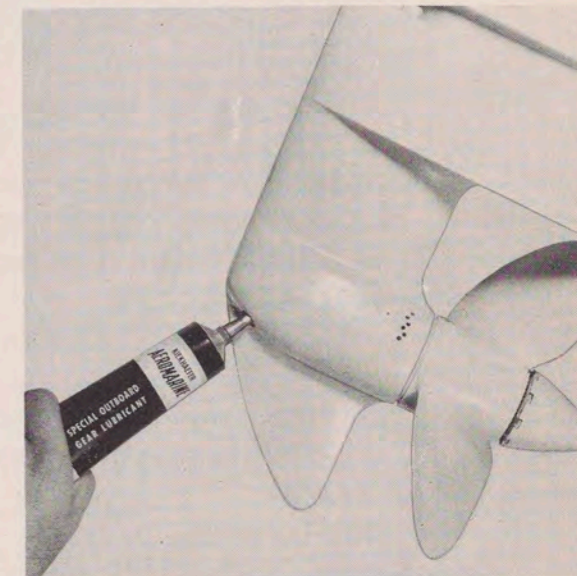

Figure 16
2. Remove the grease filler plug, located in lower port side of gearcase. (See Figure 16.)